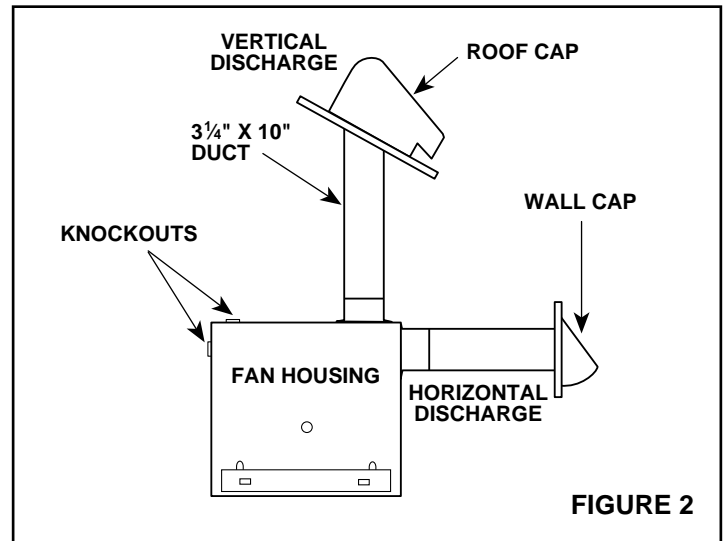
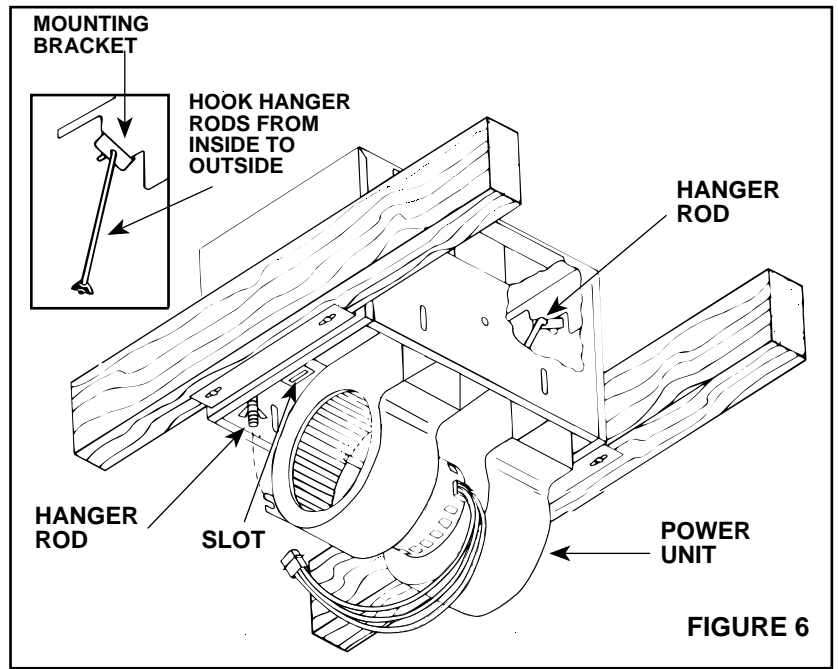

FIGURE 2
FIGURE 6
3. **Refer to Figure 2.** This unit can be ducted for either vertical or horizontal discharge. Determine the method of discharge that will be used.
WIRING AND DUCTING – Refer to Figure 6 for wiring and to Figure 2 for ducting. Plan ducting and wiring before proceeding with installation.